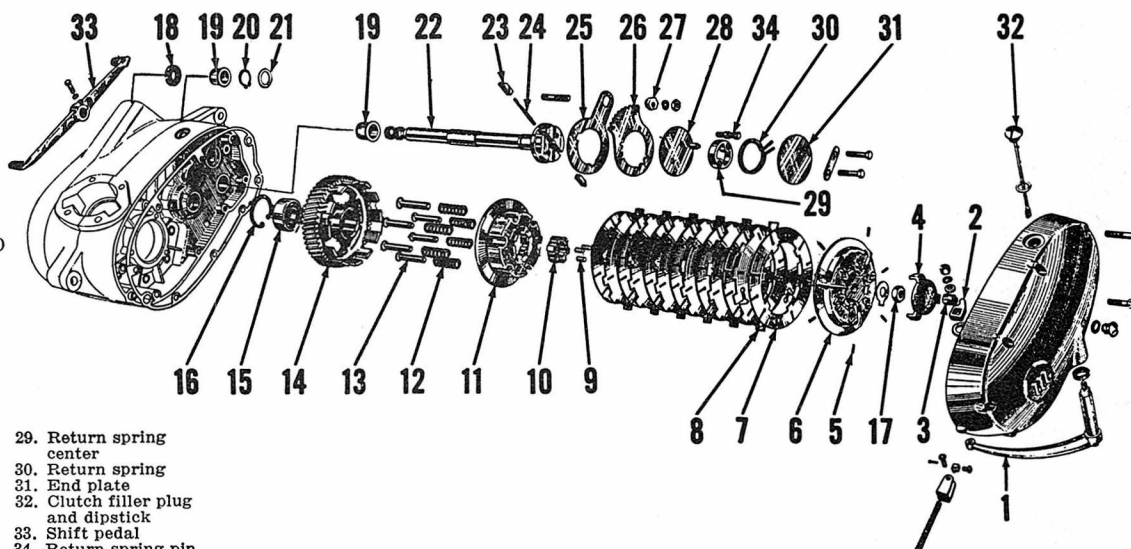
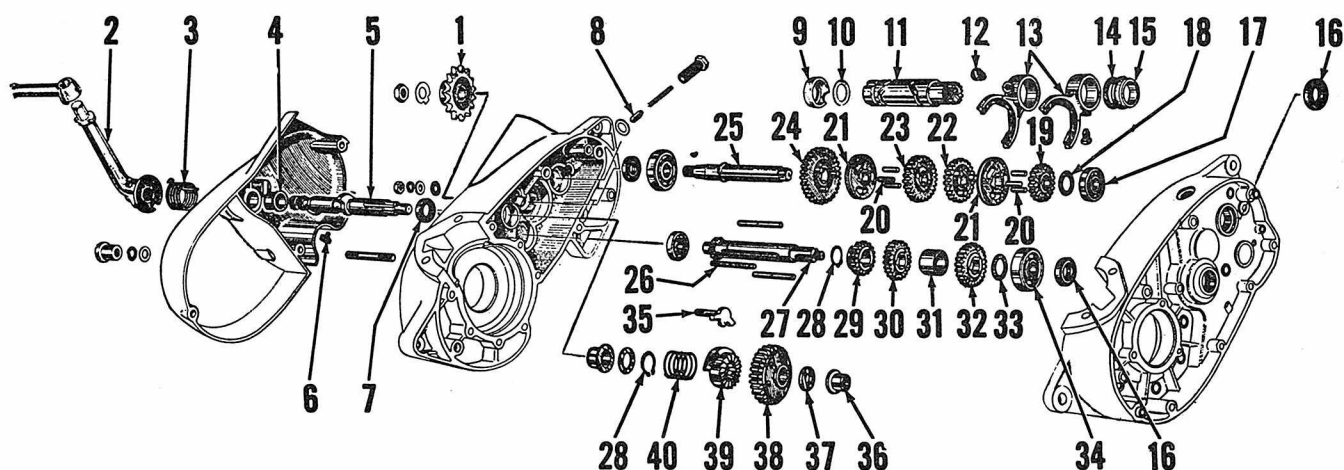

Fig. M12—Exploded view of clutch assembly and gear selector mechanism. Gear quadrant (26) meshes with left end of shift drum (11—Fig. M 14).
Fig. M14—Exploded view of transmission assembly. Shift forks (13) are interchangeable.
**CLUTCH.** The multiple disc, wet type clutch is mounted on the left end of the transmission input shaft (Fig. M12). Clutch can be removed after removing crankcase left side cover and retaining nut (17). Pins (5) must be removed to disassemble clutch. Springs (12) should exert 28 Kgs (61.6 lbs.) when compressed to a height of 22 MM (7/8 in.) When re-assembling, tighten nut (17) to 29 ft. lbs. of torque.
To disassemble the crankcase and gear box, it is necessary to remove the engine. Remove both left and right crankcase covers, magneto, crankshaft gear (9—Fig. M4), seal retainers (3), clutch assembly (Fig. M12) and output sprocket (1—Fig. M14).
The transmission assembly is shown in Fig. M14. Shims (18 and 33) are used to limit end play of gears on the shaft to 0.2-0.3 MM (0.008-0.012
in.). Eccentric (27—Fig. M12) is used to adjust stop plate (25) so that pedal (33) will engage gears completely and
stop movement at same time detent (8—Fig. M14) engages groove in shift drum (11).